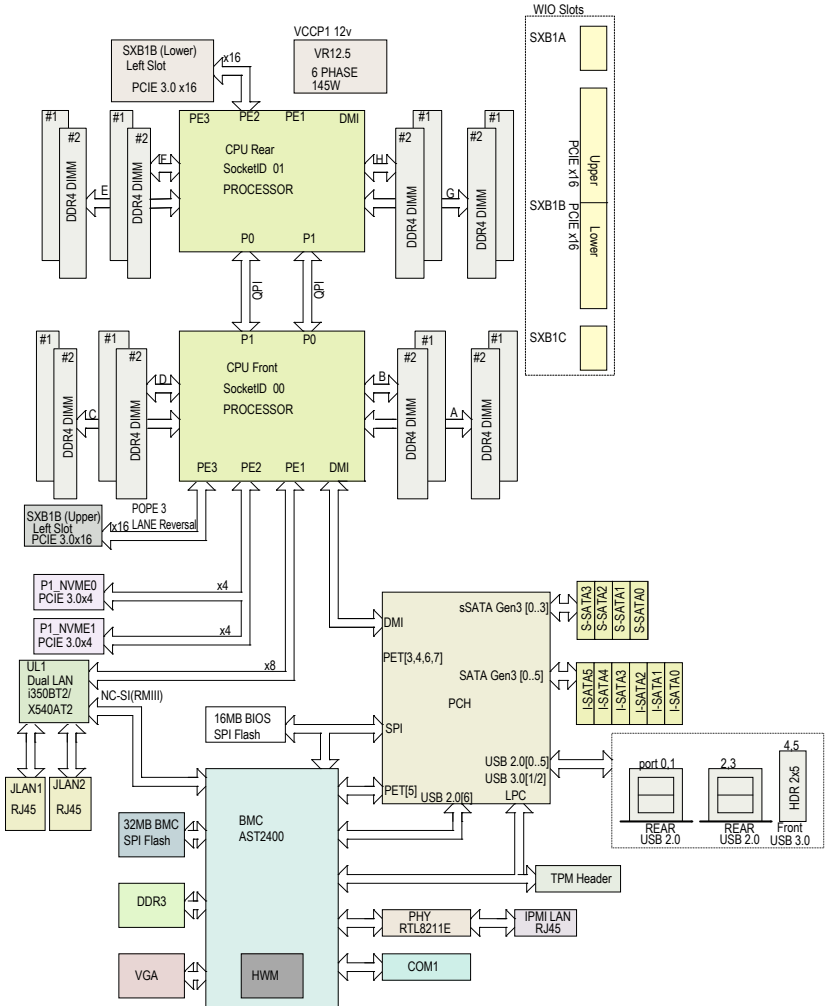

Figure 1-1. Intel C612 Express Chipset Block Diagram
At the heart of the 1028R-WTNR(T) SuperServer is the X10DRW-N(T), a dual processor serverboard based on the Intel C612 Express chipset. Below are the main features of the system (See Figure 1-1 for a chipset block diagram).